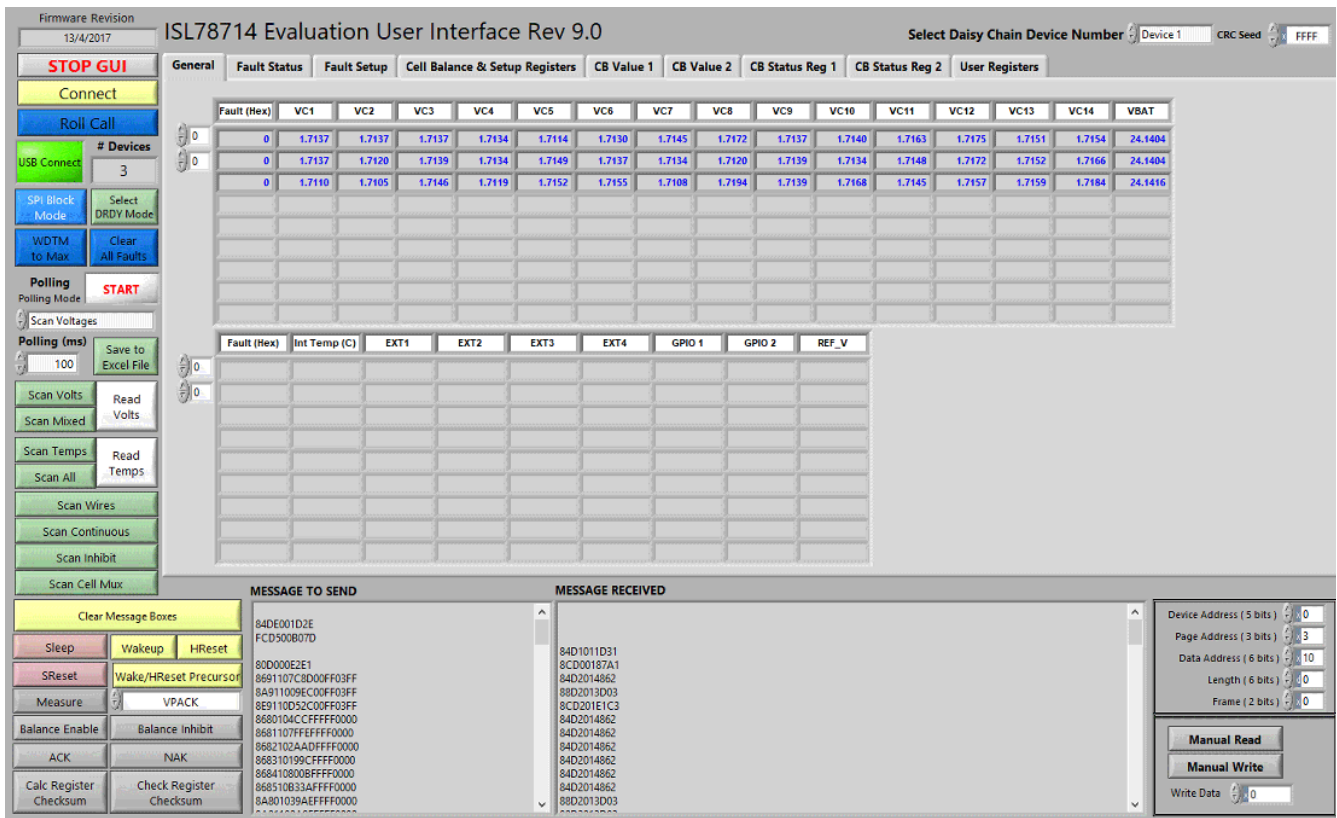

Figure 9. Main GUI Window
11. Click the **Read Volts** button. The voltage values read in step 10 are displayed. See Figure 9 for a typical setup with three boards in the daisy chain.
Figure 9 shows the GUI Main screen. The primary control elements and commands are on the left. The tab structure (along the top) provides information about the operation of the pack, the setup of each device in the stack, and various other monitor functions. The two message windows at the bottom keep track of and display messages transferred between the GUI and the RAA489204. Finally, in the lower right of the Main screen is an area that allows you to test any specific command that is not provided by the GUI.